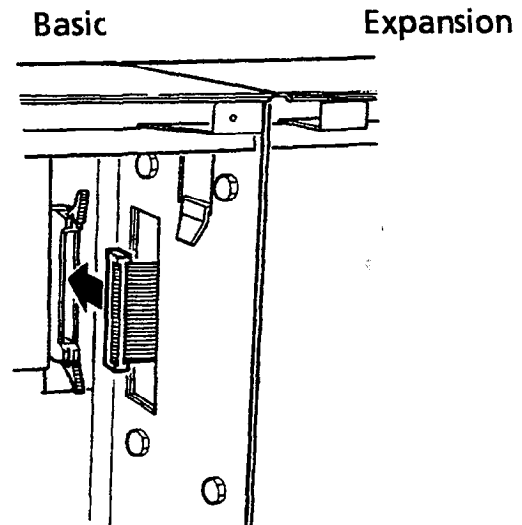

Figure 3-18 Connecting the Cable Between Level II Basic and Expansion KSUs
- Attach the ribbon cable, mounted on the Expansion KSU, through the opening between the Basic and Expansion KSUs. Refer to Figure 3-18 - Connecting the Cable Between the Level II Basic and Expansion KSUs.